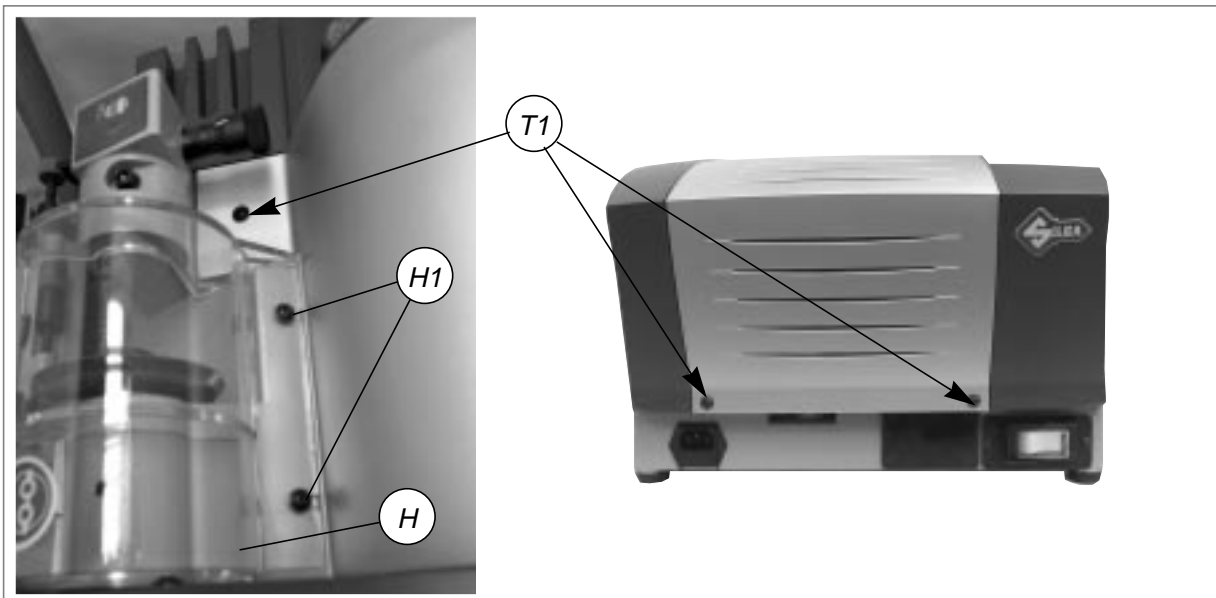

Fig. 29
- 2) Loosen the 2 screws (H1) on the cutter cover (H) and remove (fig.29).
2) Loosen the 2 screws (H1) on the cutter cover (H) and remove (fig. 29, page 24).
3) Loosen the 3 screws (T1) on the central cover (fig.29), raise slightly and remove, tipping a little.
- 7) Replace the central cover and fix with the 3 screws (T1) (fig. 29, page 24).
- 5) Loosen the 2 screws (H1) on the cutter cover (H) and remove (fig. 29, page 24).
- 6) Loosen the 3 screws (T1) on the central cover, raise slightly and remove, tipping a little (fig. 29, page 24).
- 17) Replace the central cover and fix with the 3 screws (T1) (fig. 29, page 24).
- 18) Replace the cutter cover and fix with the 2 screws (H1) (fig.29).